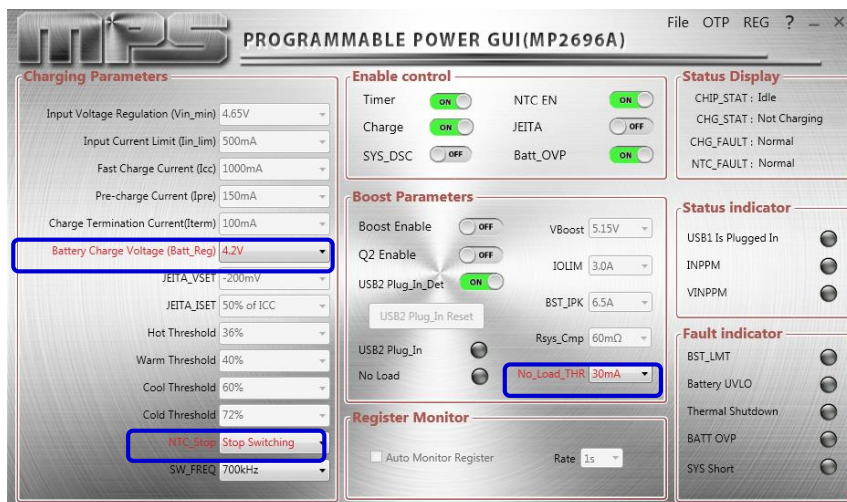

Figure 9: Adjustable Parameters in OTP Mode
3. Enter a new table (see Figure 9). The parameters highlighted in red can be changed.